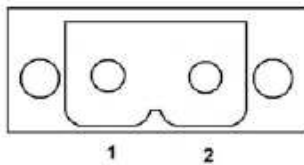

Figure 4-3: Power Terminal Block
- CN Pinouts:** See Table 4-2 and Figure 4-3